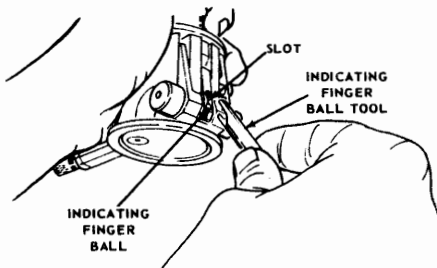

FIGURE 12
1. See Figure 12. Insert Indicating Finger Ball Tool into Slot under Ball and pry upward to remove Ball. Ball should stay in Tool.